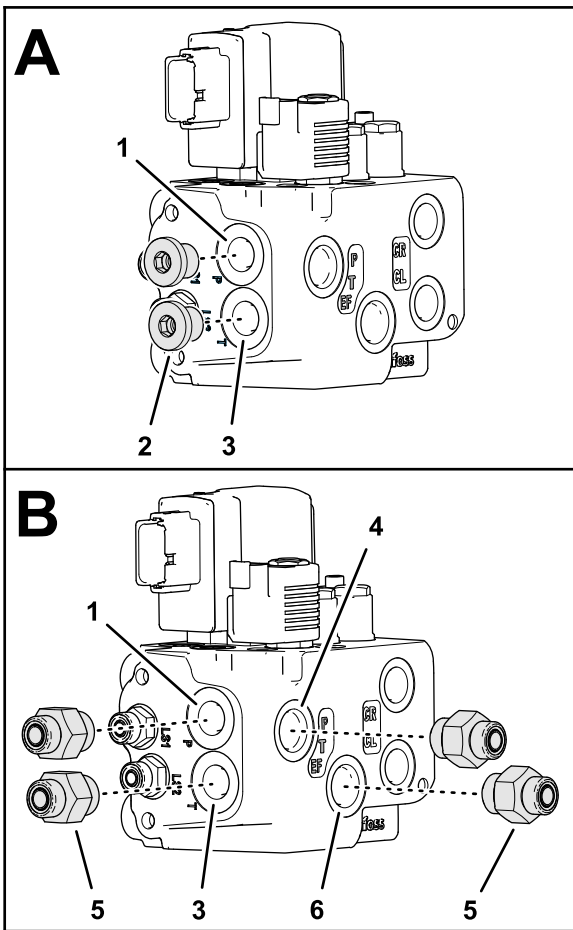

**Figure 70**
- Assemble 2 straight hydraulic fittings (-6 x 12 mm) into the EHI steering valve (Figure 70) as follows: